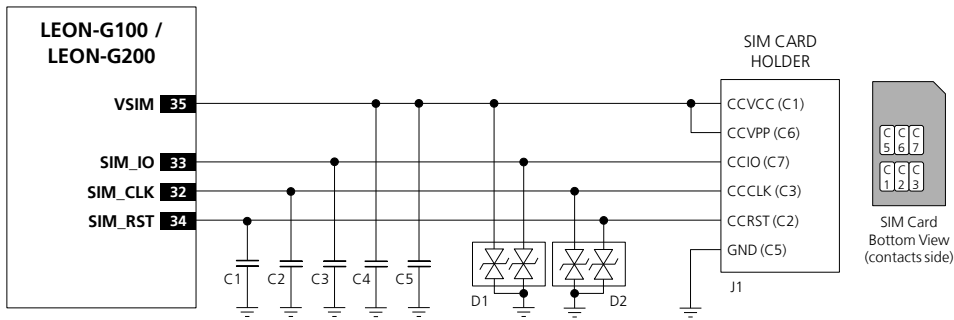

Figure 24: SIM interface application circuit
Figure 24 shows the minimal circuit connecting the LEON and the SIM card. This shows the **VSIM** supply connected to the VPP pin (contact C6) of the SIM card as well as VCC (contact C1). Providing VPP was a requirement for 5 V cards, but under 3GPP TS 51.011 specification [16], 3 V and 1.8 V SIM cards do not require VPP and the mobile equipment (ME) need not provide contact C6. If the ME provides contact C6, then it can either provide the same voltage as on VCC or it can leave the signal open, but it cannot connect VPP to GND.